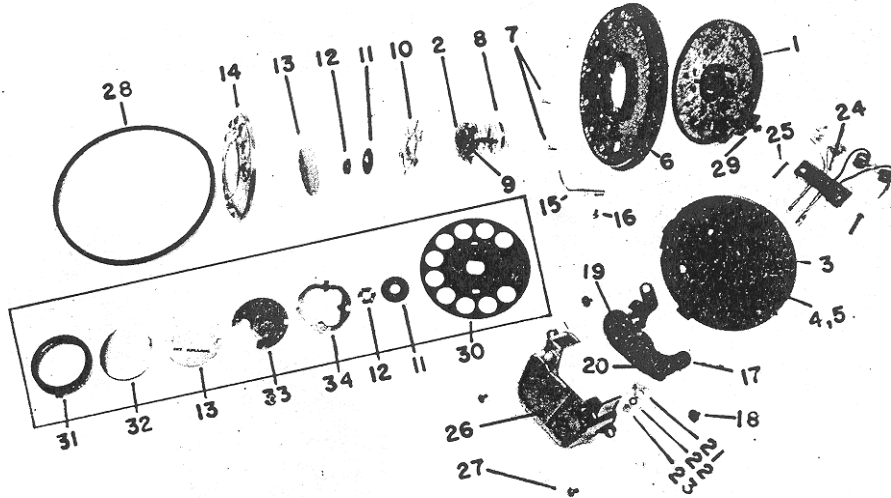

Fig. 3-1 COMPONENT PARTS - EXPLODED VIEW (19-TYPE DIAL)
3.1 Dials should be disassembled and assembled only when necessary for maintenance purposes. The procedures given in the following paragraphs, which apply specifically to the types 19 and 28 units, should be followed. The exploded view of Fig. 3-1 shows the component parts of the type 19 dial.